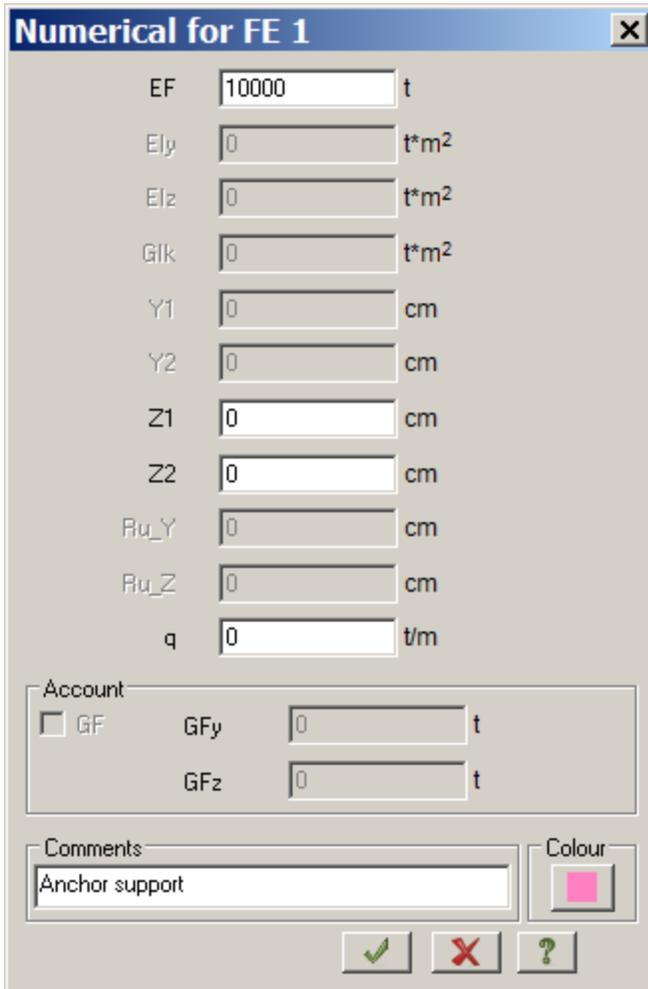

Figure 10.11 **Numerical description for FE 1** dialog box
- ⇒ In the **Numerical description for FE 1** dialog box (see Figure 10.11), specify parameters of supports for anchors: